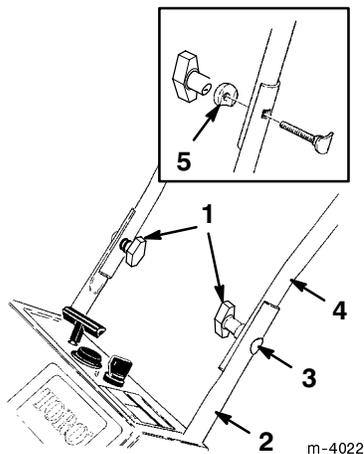

Figure 2
1. Position the ends of the upper handle section on the inside of the lower handle section and align the holes (Fig. 2).
2. Secure the upper handle section to the lower handle section using oval head bolts, curved washers, and knobs (Fig. 2).
Note: Make sure that you properly align the oval head bolts and the curved washers (See inset in Fig. 2).